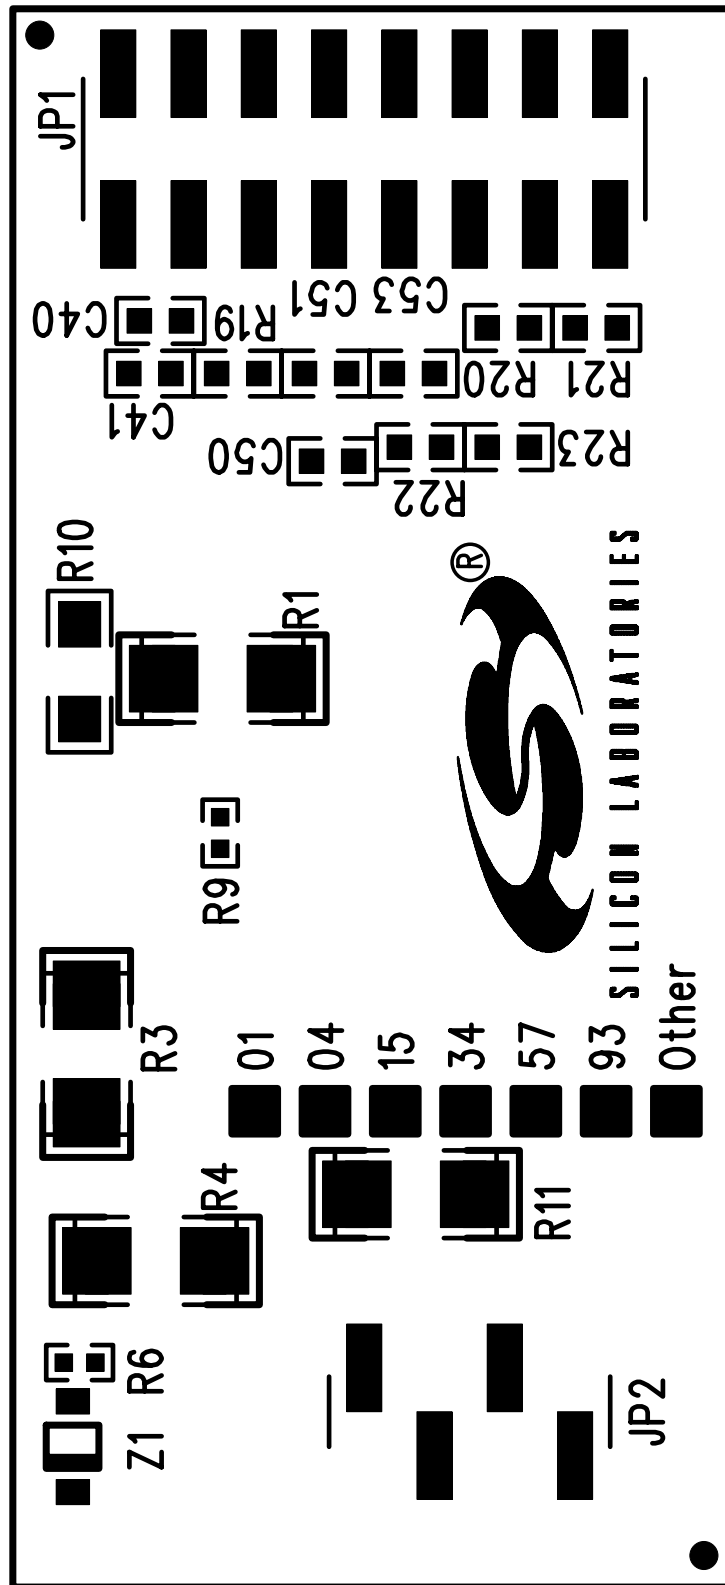

Figure 21. Daughter Card Solder Side Silkscreen
- Updated Figure 21, "Daughter Card Solder Side Silkscreen," on page 25